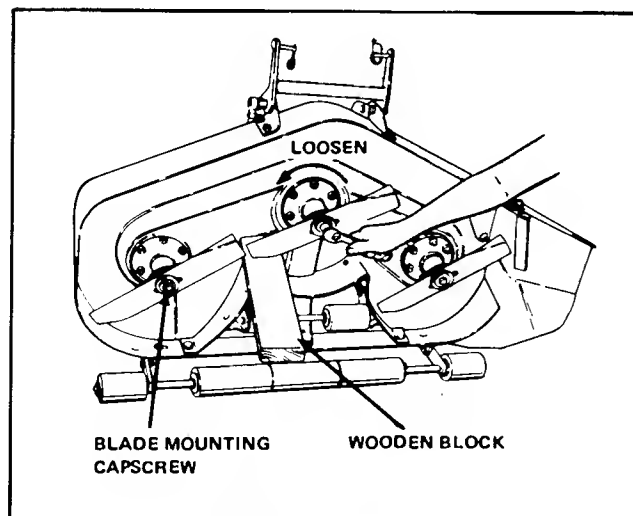

FIGURE 13 - Loosen Blade
3. To remove blade for sharpening, use wooden block to hold blade while removing its blade mounting capscrew (Figure 13).